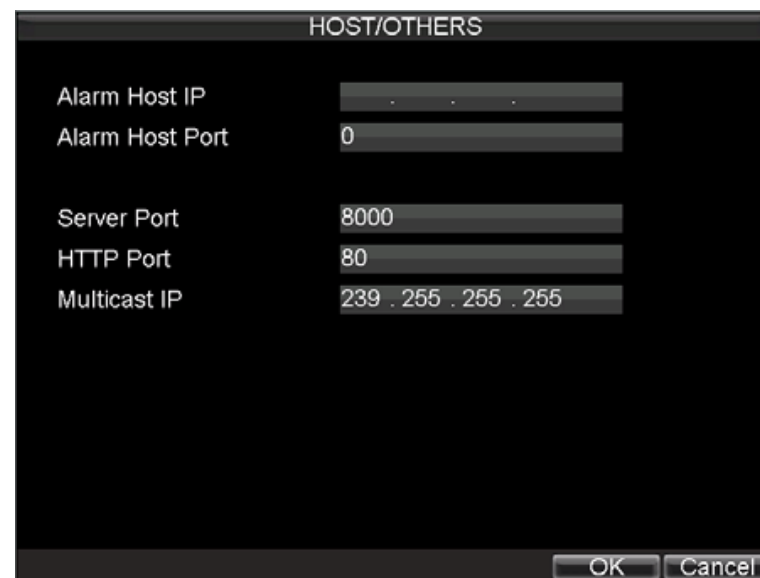

Figure 10.9. Host/Others Menu
- 3) Click the Set butt next to **Host/Others** to enter the Host/Others menu, as shown in Figure 10.9.